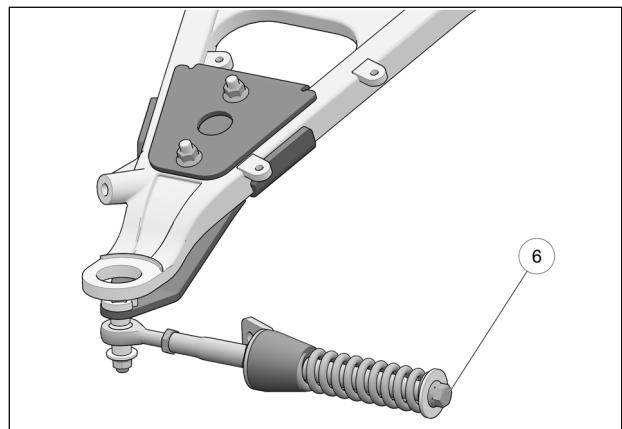

Fig. 19
9. Verify that spring assembly bolt (6) is tightened to the recommended torque specification: 75 N·m [55 lb·ft]. Refer to Fig. 19